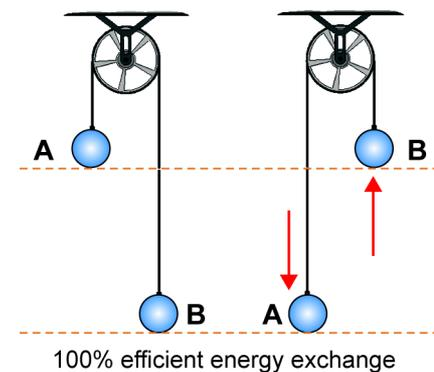

Figure 4.20: Exchanging energy with a perfect, frictionless, massless pulley.
- Reversible processes** Suppose a process were 100 percent efficient. As an example, think about connecting two marbles of equal mass by a string passing over an ideal pulley with no mass and no friction (Figure 4.20). One marble can go down, transferring its potential energy to the other marble, which goes up. The motion of the marble is **reversible** because it can go forward and backward as many times as you want. In fact, if you watched a movie of the marbles moving, you could not tell if the movie were playing forward or backward.